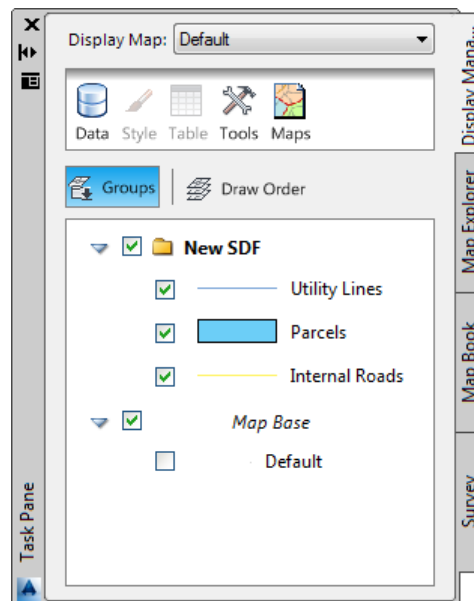

Figure 2-40 The Display Manager tab in the Task Pane
6. Next, select the **Schema1** check box in this page and then choose the **Add to Map** button; the **New SDF file** is displayed in the drawing window. Figure 2-40 shows the **Display Manager** tab of the **Task Pane** with the SDF data file. Next, close the **Data Connect** wizard.